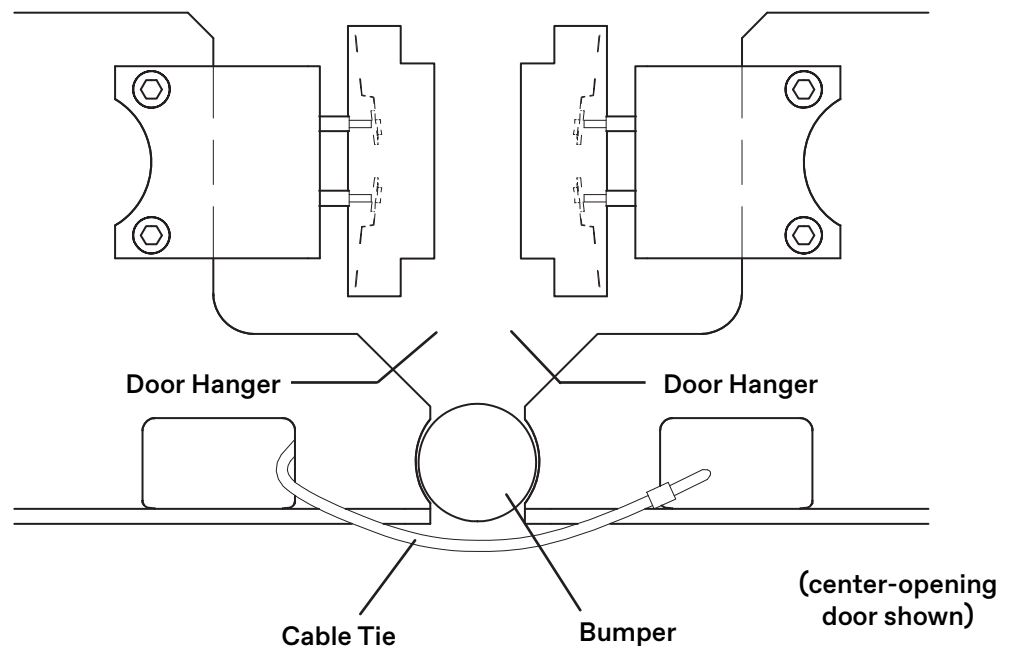

Figure 42 - Door Hanger Fully Closed Position Against Bumper
1. Move the door hanger(s) to the fully closed position against the LD-16 bumper. See Figure 42.